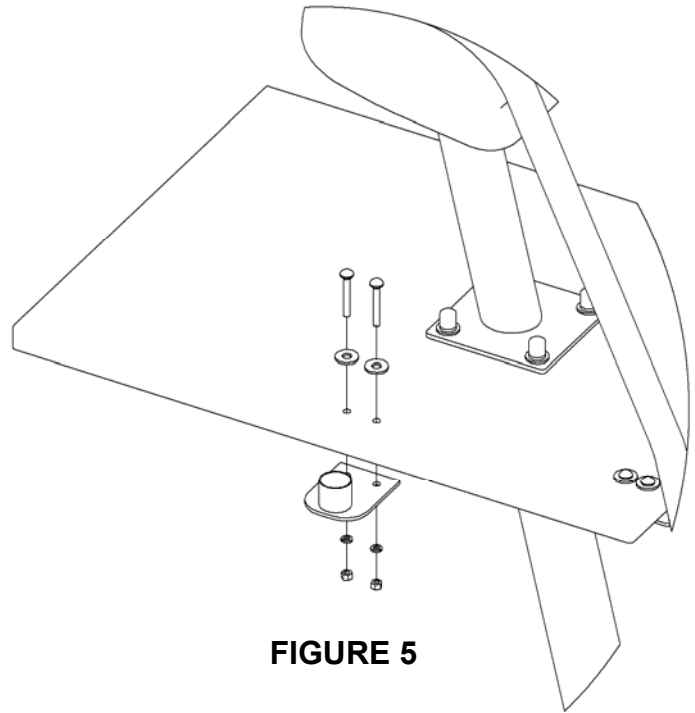

FIGURE 5
6. Attach the umbrella holder using (2 ea.) 3/8"x2-1/2" carriage bolt, 1/2" flat washer, 3/8" lock washer, and 3/8" hex nut. See **FIGURE 5**